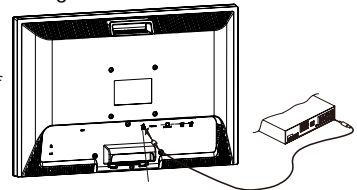

Figure1-7 Audio Jack
1. Connect the audio cable to the "LINE OUT" jack on your PC's audio card or to the front panel's "AUDIO OUT" jack of your CD ROM drive. (See Fig. 1-7)